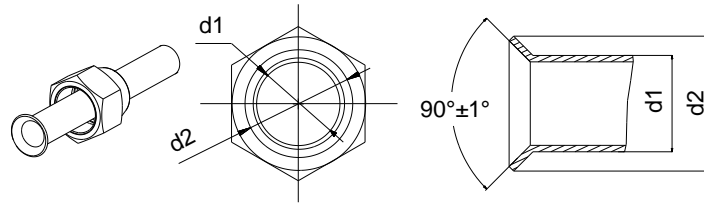

Figure 3-2-3
- (1) Cut the connection pipe with the pipe cutter and remove the burrs.
- (2) Hold the pipe downward to prevent cuttings from entering the pipe.
- (3) Remove the flare nuts at the stop valve of the outdoor unit and inside the accessory bag of the indoor unit, then insert them to the connection pipe, after that, flare the connection pipe with a flaring tool.
(4) Check if the flare part is spread evenly and there are no cracks (see Figure 3-2-3).